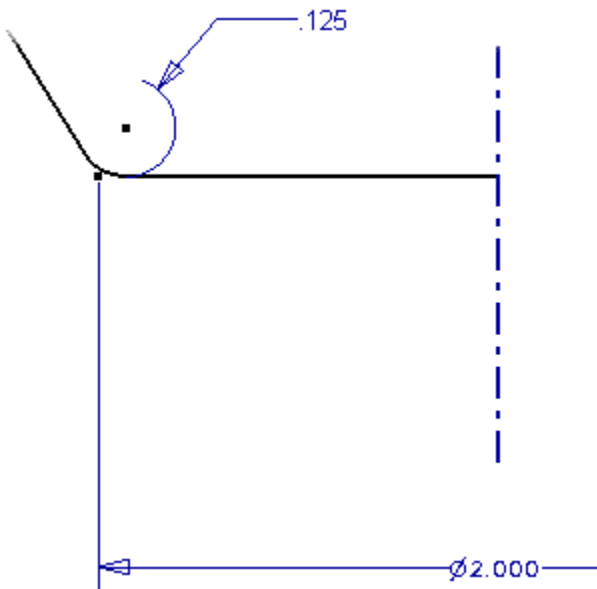

Figure 11: Bottom fillet.
9. From the Sketch panel bar, click the Fillet tool . Click the angled and horizontal lines to add the fillet shown in Figure 11.